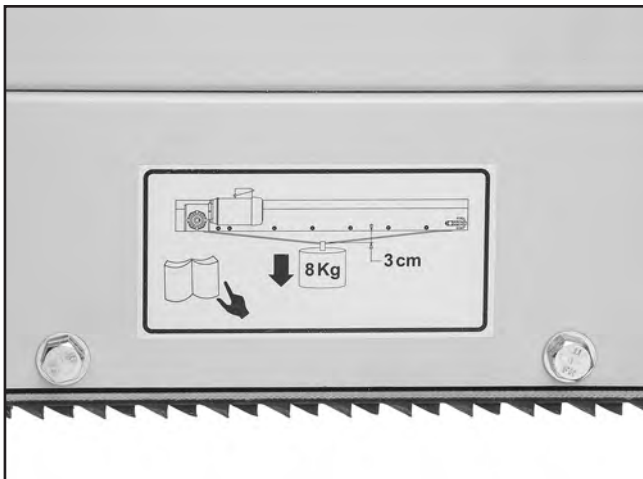

Figure 93. Conveyor belt tension label, located on inside of panel feeder.
3. Place 8kg (17½ lbs.) of downward force on conveyor belt, as illustrated in label on panel feeder (see **Figure 93**).